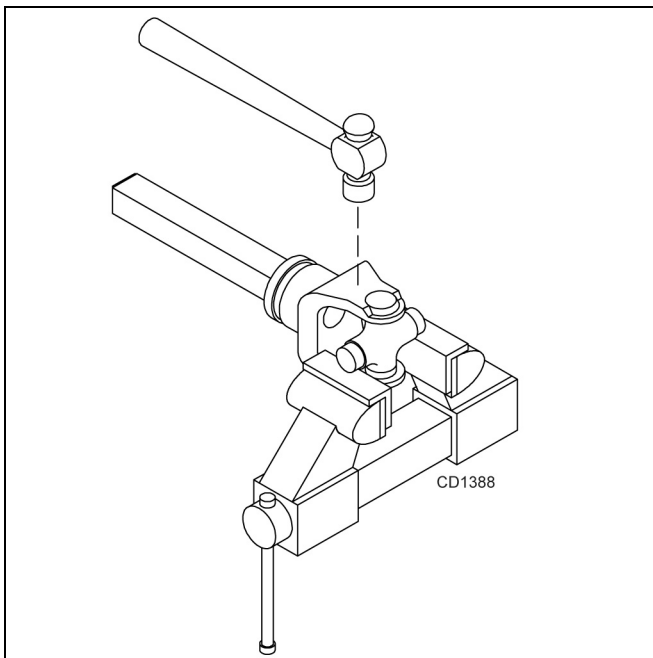

Figure 20
4. Place universal cross in vise as shown in Figure 20 and tap on yoke to remove cup. Repeat Step 3 for final removal. Drive remaining cup out with a drift and hammer.